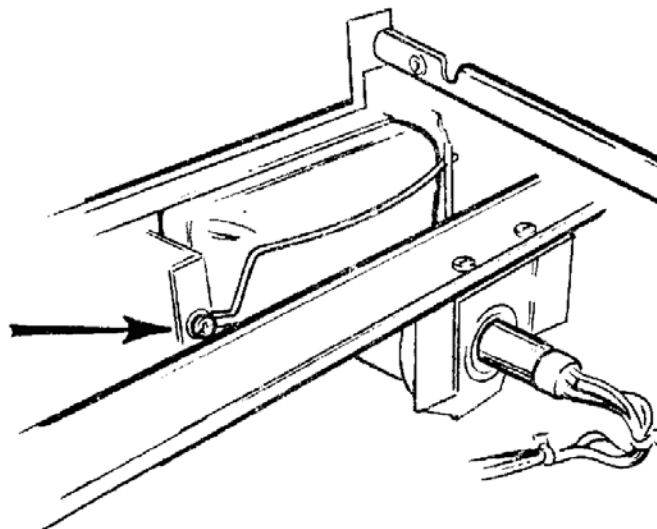

Figure 2-7. CRT socket disconnect.
- (2) Disconnect the CRT socket (figure 2-7).
- (3) Remove the two chassis screws holding the grounding wire form (figure 2-7).
- (4) Remove the CRT assembly.